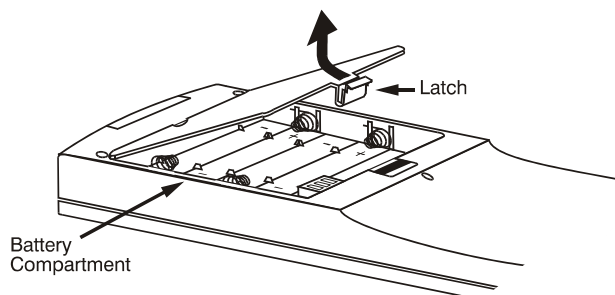

Figure 2.41. Opening the “Brick” rental staging – Standard IR Remote
- If remote keypad: Press either Lens H ◀ ▶ or Lens V ▲ ▼ (**Figure 2.41**).
Unlatch and open the battery compartment on the back of the keypad as shown in Figure 2.41.